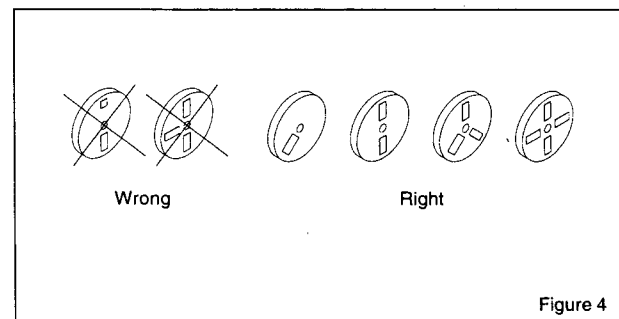

Figure 4
1. always use the same size marks (see Figure 4)
2. space the markers evenly (see Figure 4)